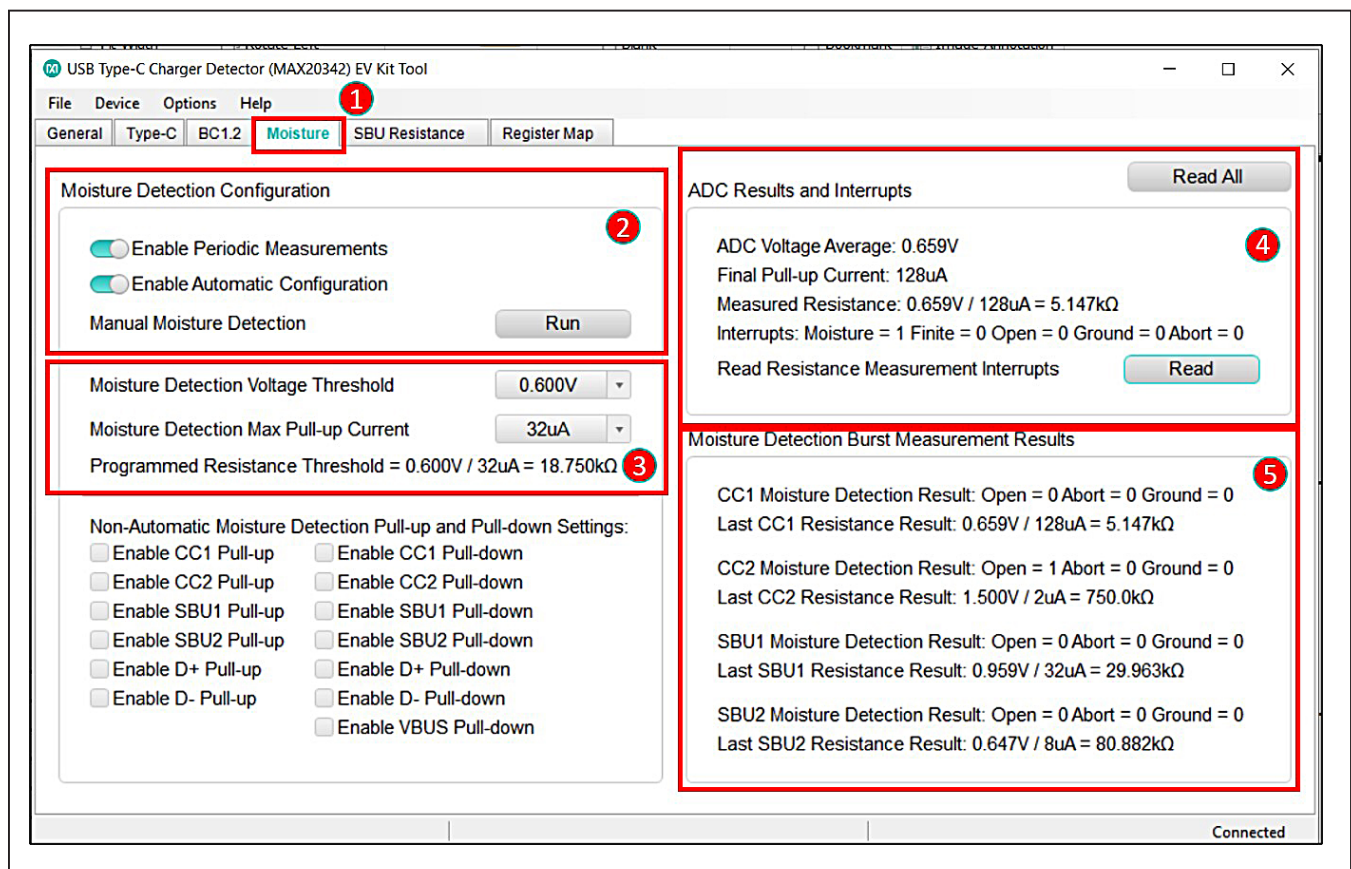
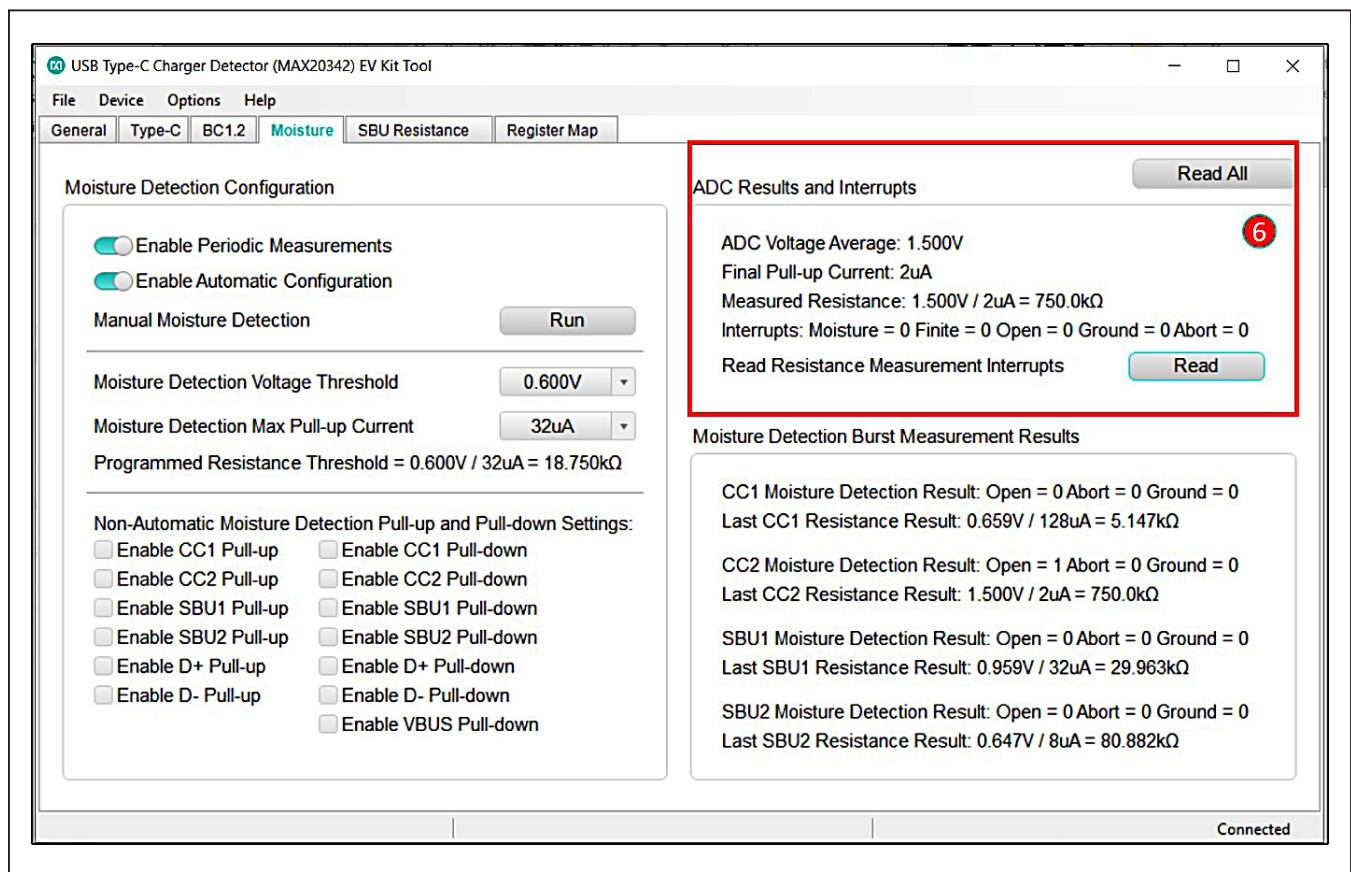

Figure 12. Moisture Detection Shows Resistance Measurement Results of CC1
Figure 13. Moisture Detection Shows Resistance Measurement Results of CC2
Interpreting moisture detection results is detailed in the following procedure and Figure 12.
- 5) After 10 seconds, the ADC shows the resistance measurement of pin CC2 (see Figure 13). As CC2 is left open, the **Measure Resistance** displays the highest ADC value equivalent to **750.0kΩ**.
- 6) The **ADC Results and Interrupts** panel is updated every 10 seconds. The resistance measurement results of CC1 and CC2 are shown alternatively in Figure 12 and Figure 13.